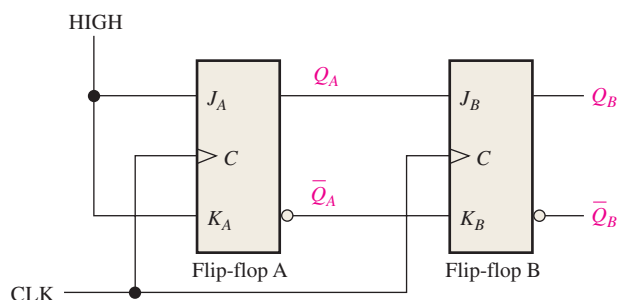

FIGURE 7–89
24. For the circuit in Figure 7–89, determine the maximum frequency of the clock signal for reliable operation if the set-up time for each flip-flop is 3 ns and the propagation delays (t_{PLH} and t_{PHL}) from clock to output are 6 ns for each flip-flop.